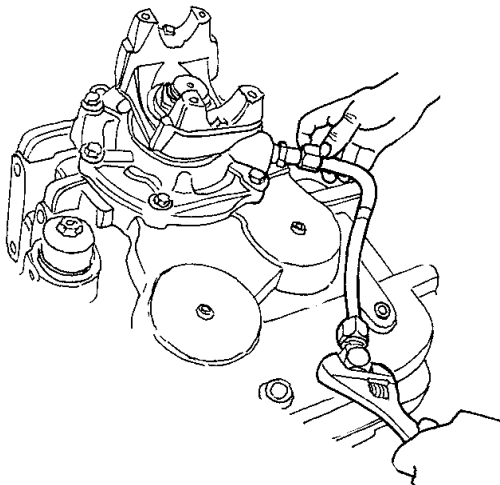

Figure 5 Disconnect and Reposition Oil Tube
6. Disconnect the oil inlet tube fitting and move the oil tube out of position for clearance (Figure 5).